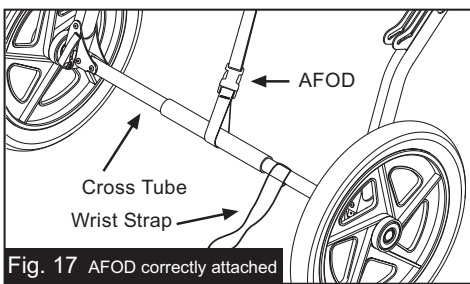

Fig. 17 AFOD correctly attached
**8. AFOD:** With the stroller in the fully open position (Fig. 1), attach the AFOD (Anti-Fly-Out-Device) around the cross tube with the plastic buckle (Fig. 17). It is important that the AFOD is always properly secured when using the stroller, as it is part of the child's seat restraint system. It is, however, necessary to release the AFOD in order to fold the stroller.
**14. FOLDING:** Remove children from stroller. Remove the contents of the Low Boy cargo pouch. Unbuckle the AFOD strap (Fig. 17). The shock absorbers must be in position 1 (Fig. 2) before folding.